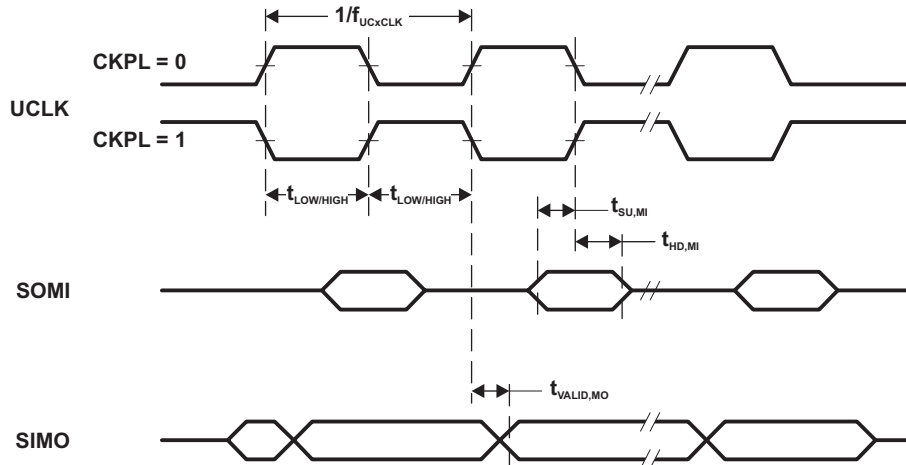
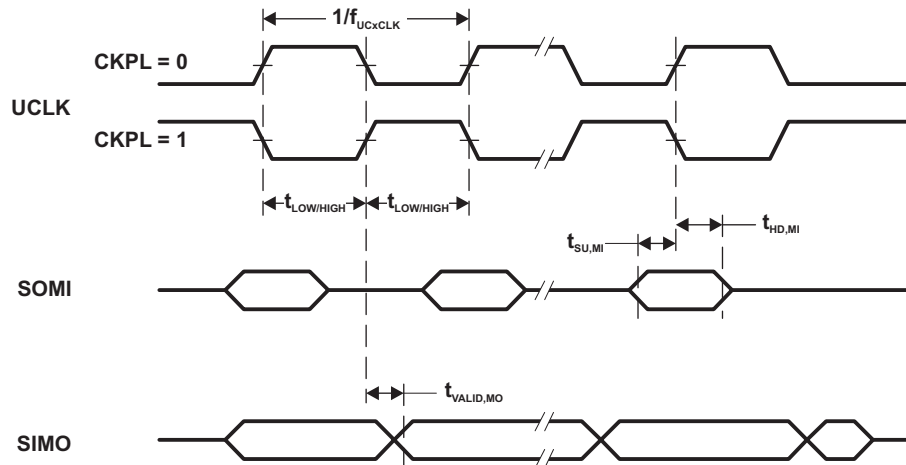

Figure 5-10. SPI Master Mode, CKPH = 0
Figure 5-11. SPI Master Mode, CKPH = 1
- (1) fUCxCLK = 1/2(tLO/HI) with tLO/HI = max(tVALID,MO(eUSCI) + tSU,SI(Slave), tSU,MI(eUSCI) + tVALID,SO(Slave)). For the slave's parameters tSU,SI(Slave) and tVALID,SO(Slave) see the SPI parameters of the attached slave.
- (2) Specifies the time to drive the next valid data to the SIMO output after the output changing UCLK clock edge. Refer to the timing diagrams in Figure 5-10 and Figure 5-11.
- (3) Specifies how long data on the SIMO output is valid after the output changing UCLK clock edge. Negative values indicate that the data on the SIMO output can become invalid before the output changing clock edge observed on UCLK. Refer to the timing diagrams in Figure 5-10 and Figure 5-11.